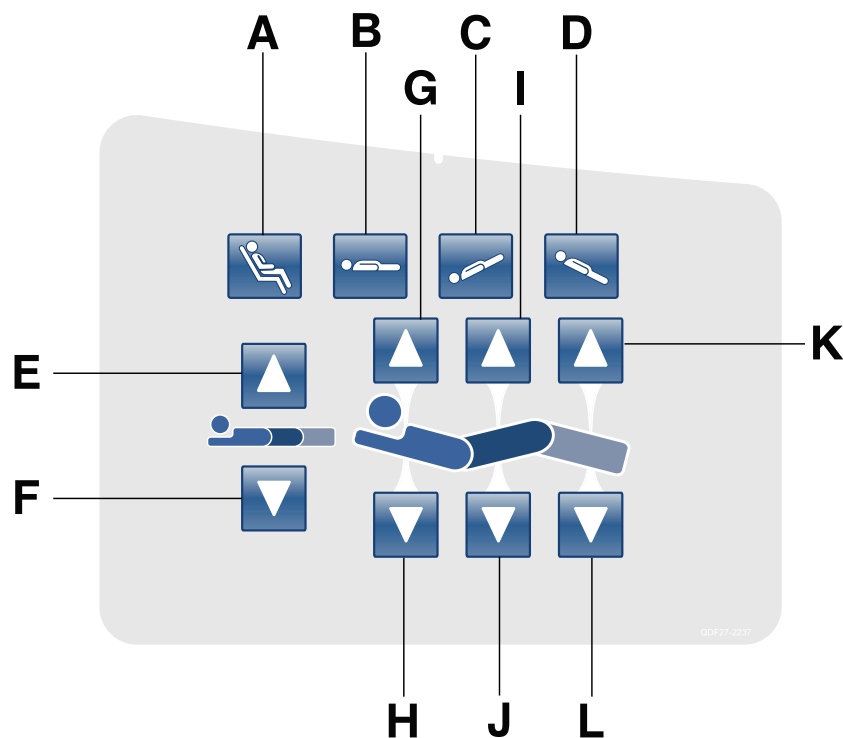

Figure 1-17: Raising or lowering the siderails
To raise the siderails, grasp the yellow release latch (A) (Figure 1-17 on page 1-31) and rotate the siderail backward.
To lower the siderails, grasp the yellow release latch (A) (Figure 1-17 on page 1-31) and rotate the siderail forward.